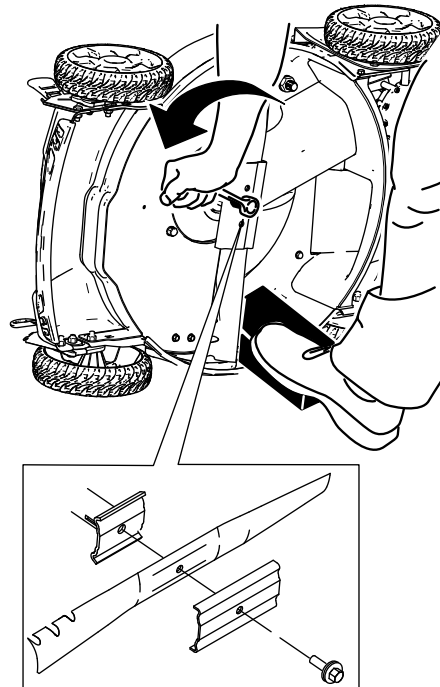

Figure 1
4. Use a block of wood to hold the blade steady (Figure 1).
5. Remove the blade, saving all mounting hardware (Figure 1).